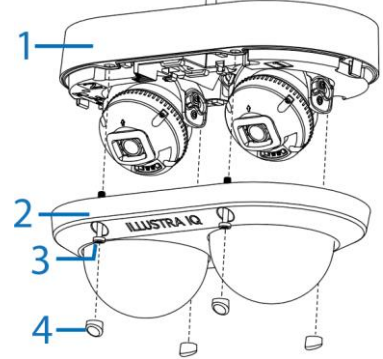

Figure 1
3. Remove the four rubber plugs (4) (Figure 1) and use the T20 Torx wrench to unscrew the four captive screws (3) (Figure 1) and then remove the dome cover (2) (Figure 1) from the camera base (1) (Figure 1).
5. Remove the four rubber plugs (4) (Figure 1) and use the T20 Torx wrench to unscrew the four captive screws (3) (Figure 1) and then remove the dome cover (2) (Figure 1) from the camera base (1) (Figure 1).